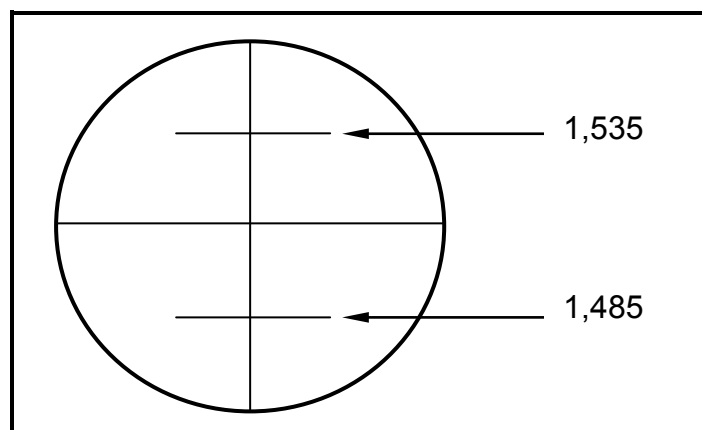

FIGURE 2.12
- 2.12 FIGURE 2.12 below shows a reading on the top stage line and bottom stage line as viewed through the eye piece of a dumpy level. (4)